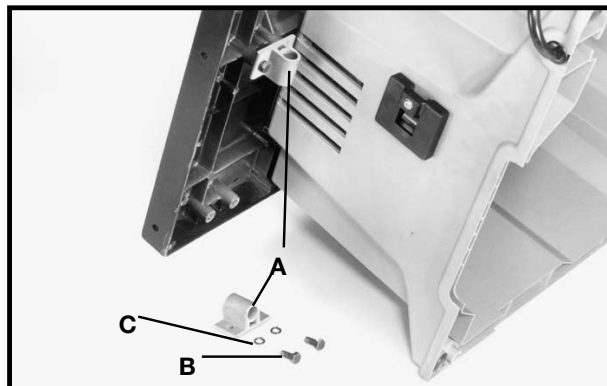

Fig. 29
1. **LOOSELY** fasten both brackets (A) Fig. 29, to the bottom left side of the saw table as shown, using two M6x15mm phillips hex head screws (B) and M6.1 lockwashers (C). Assemble two remaining brackets to the bottom right side of saw table in the same manner.